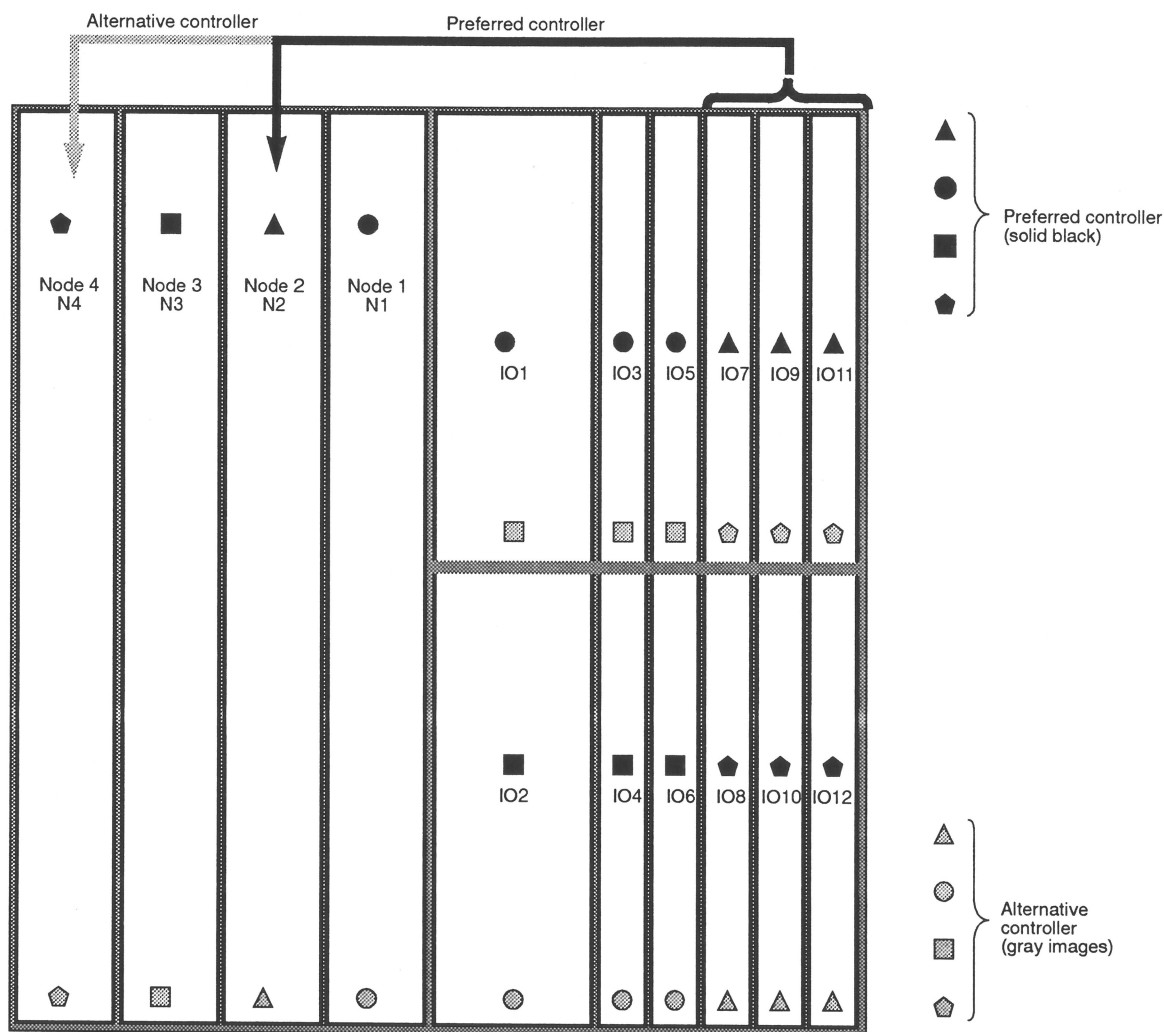

Figure 1 Board Positions and Preferable/Alternative XIO Configurations in Origin2000 Chassis
Figure 1 shows the locations of Node and XIO boards as viewed from the rear of the Origin2000 chassis.
- The solid black shapes in Figure 1—circle, triangle, square, pentagon—indicate the **preferred** IO-board-to-Node-board control connections.
- The gray shapes in Figure 1 indicate allowable **alternative** configurations.
For instance, it is preferred that IO slot 7 (IO7) be controlled by Node board 2; therefore, both locations (IO7 and N2 in Figure 1) are tagged with solid black triangles. The solid black arrow going from IO7 to N2 in Figure 1 also indicates this preferred arrangement.
Although it is not the preferred configuration, IO7 can also be controlled by Node 4. This is indicated by the gray pentagons on IO7 and N4 in Figure 1. The gray arrow in Figure 1 also indicates this alternative configuration.
These connections are also indicated by the black configuration tags (circle, square, etc.) that were first described in Figure 1.